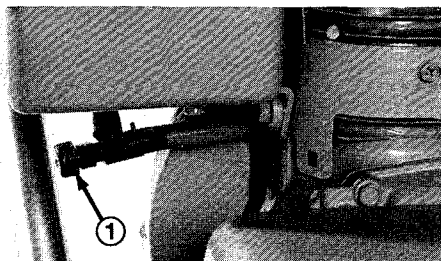

Figure 18
**Fuel Shut-Off Valve** (Fig. 18) — Valve is located under fuel tank. Close valve to stop fuel flow from fuel tank and open valve to allow fuel to flow to the carburetor. Close valve when snowthrower is not used.